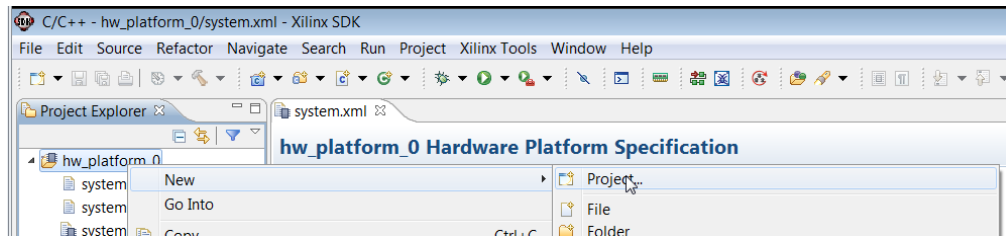

Figure 136: SDK New Project Selection
1. In SDK, right-click **hw_platform_0** and select **New > Project** (Figure 136).